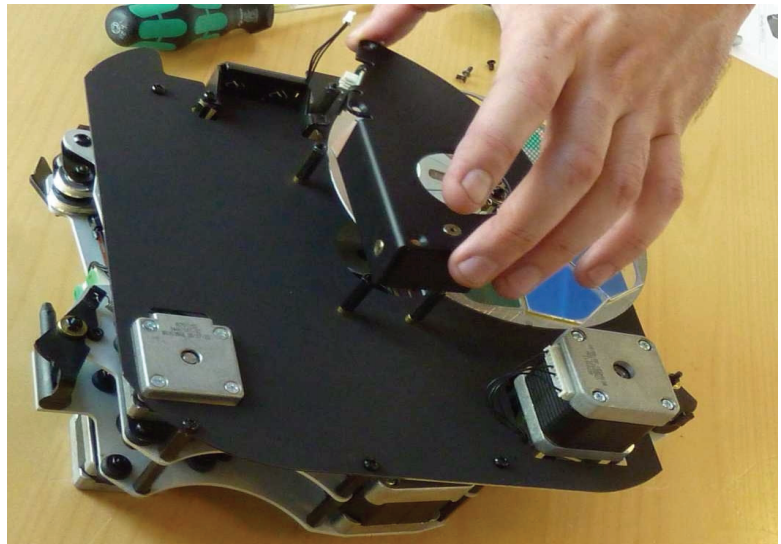

Figure 25
30. Fasten the new aperture plate onto its 4 pillars as shown in Figure 25.